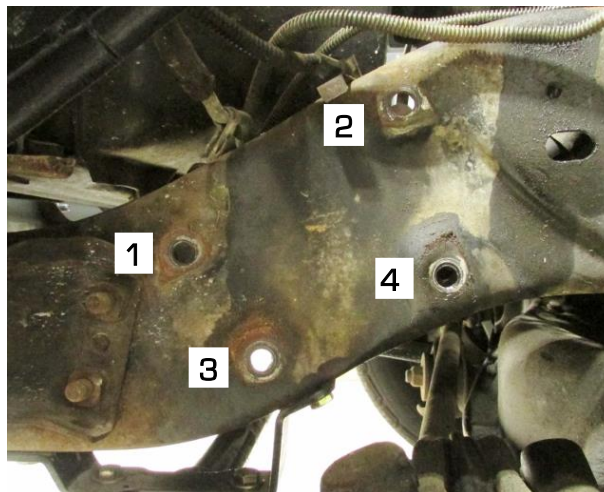

Figure 5 – Remove Steering Gear
6. With the original steering gear properly supported, remove the four bolts that attach the gear to the frame rail. These bolts will be reused for installation of the DSE steering gear (Figure 5).